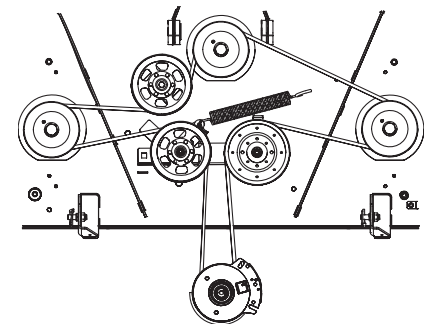

Figure 38
5. Install the new belt around the spindle pulleys as shown and reinstall the belt covers. See Figure 38.
7. Route the belt as shown in Figure 38 and then reinstall the deck. Refer to Deck Installation.